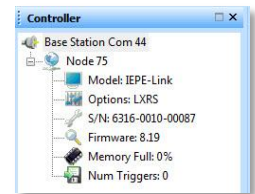

Figure 5: Info Tree
8. Click the + sign to the left of Node 75 and the Model, Options, Serial Number, Firmware Version, Memory Full (amount of datalogging storage consumed), and Num Triggers (number of stored datalogging sessions) will be displayed (Figure 5).